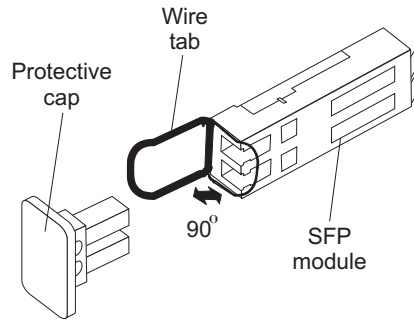

Figure 24. Unlocking the SFP module latch - plastic variety
- For SFP modules that contain plastic tabs, unlock the SFP module latch by pulling the plastic tab outward 10°, as shown in Figure 24.